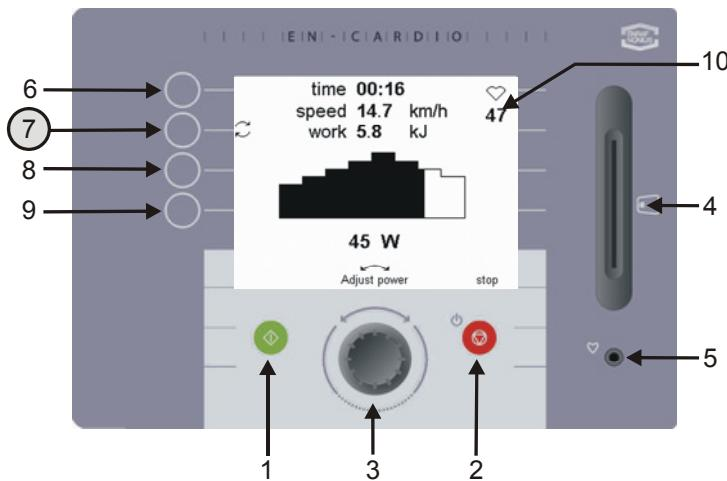

Fig. 11 Changing the value displayed in the exercise screen
By pressing the green button (1) you start the training, and the exercise screen appears. (Fig. 11)